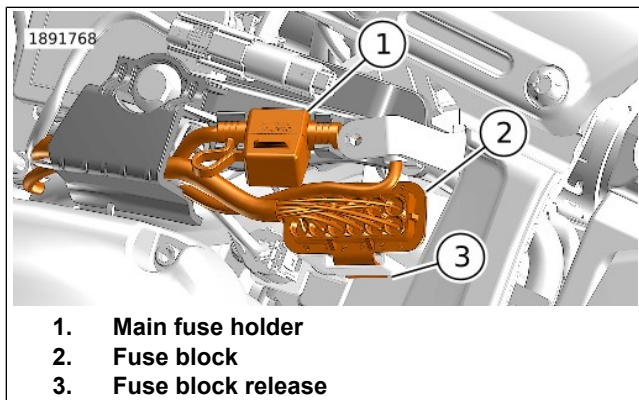
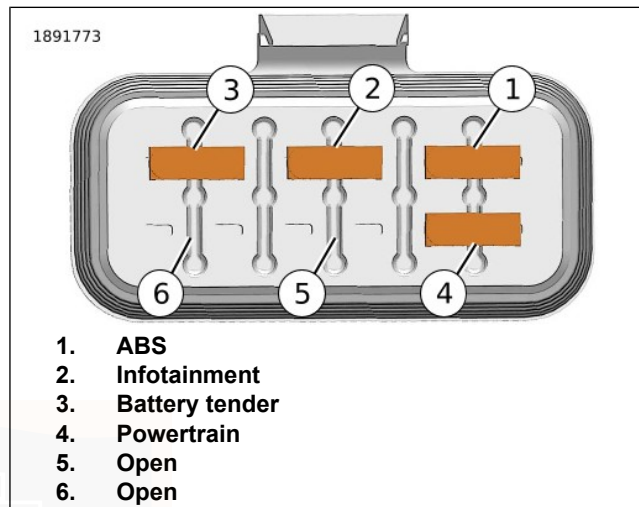

Figure 80. Fuse Mounts
Figure 81. Fuses
3. See Figure 80. Remove cover of main fuse holder (1).
3. See Figure 80 and Figure 81. Remove fuse block from caddy on motorcycle.